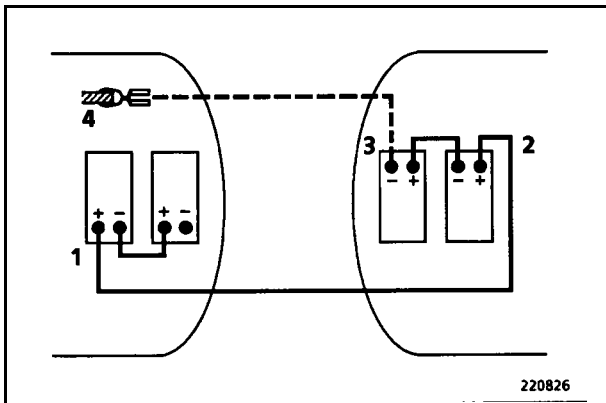

Fig. 4-1:
- Connect the red jumper cable to the positive pole of the empty battery (1, Fig. 4-1:), then to the positive pole of the charged battery (2).
- Connect the black jumper cable first to the negative pole of the charged battery (3), then to the negative pole of the empty battery (4).